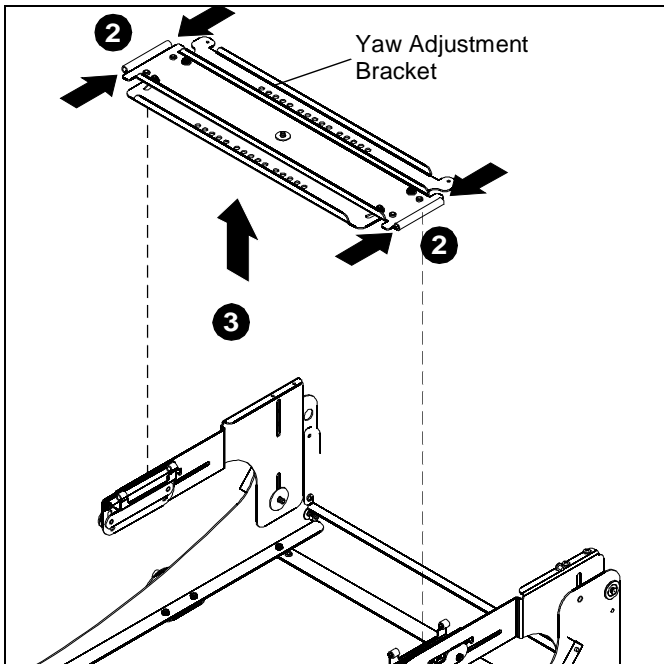

Figure 11
- Press in end tabs on both ends of yaw adjustment bracket and lock into place. (See Figure 11)
- Remove the yaw adjustment bracket from the SL236 by lifting up. (See Figure 11)